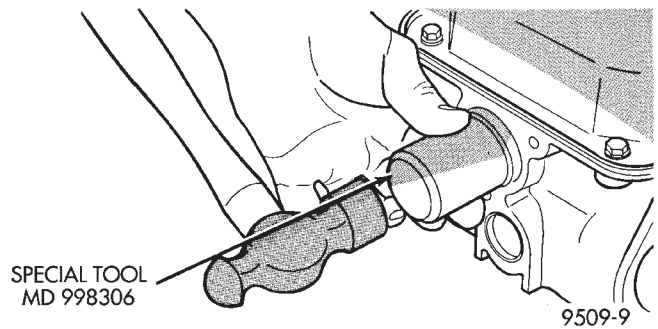

Fig. 68 Installing Camshaft Seal
(1) Install camshaft seal flush with cylinder head using Special Tool MD 998306 (Fig. 68).